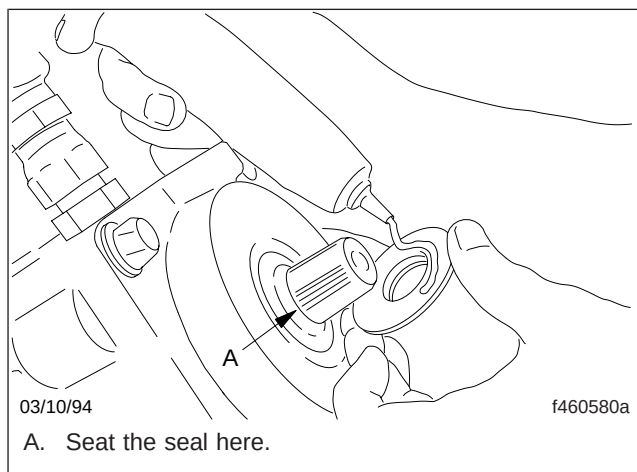

Fig. 7, Dirt and Water Seal Installation
- 17.2 Apply Exxon Polyrex EP2 grease to the new dirt and water seal and install it on the input shaft. See Fig. 7. Seat it in the